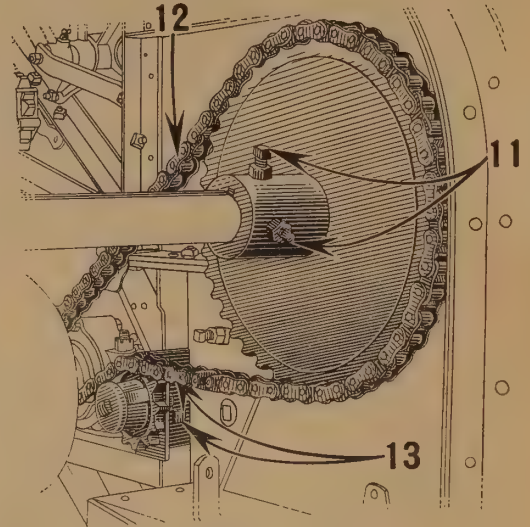

Fig. 22
11. (Fig. 22.) Remove pulleys from L. H. end of cylinder shaft; attach driven sprocket (**long end of hub out**) being sure sprocket sets against spacer collar. Secure sprocket with square key and set screws.
12. (Fig. 22.) Line up drive sprocket on countershaft with driven sprocket on cylinder shaft. Attach roller drive chain. Roller chain has detachable links so that it may be used on any of the driven sprockets.
13. (Fig. 22.) Bolt chain tightener bracket to back side of L. H. front separator upright angle.